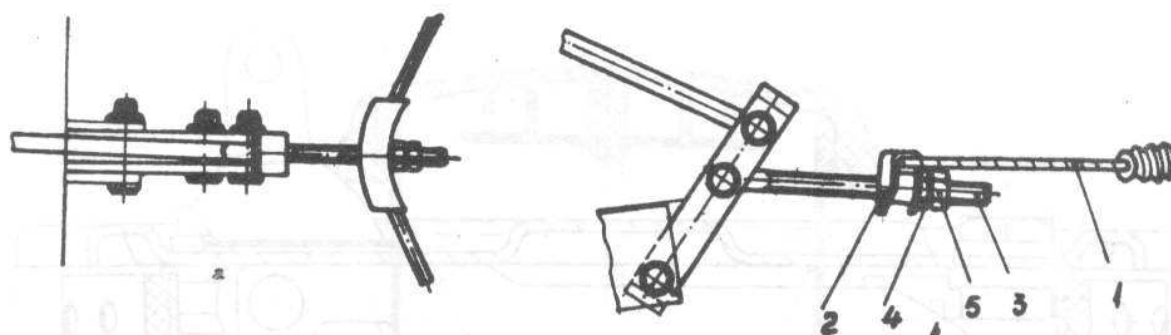

Fig.2.41. BOWDEN CABLE TENSION ADJUSTING SYSTEM FOR HAND BRAKE CONTROL.
- Loosen parking brake Bowden cable pushing forwards brake control handle and then slacking nut (4) and lock nut (5) - (see fig.2.41), unscrewing both untill the cable is loosened, i.e. up to the end of adjusting rod (3) (access from car underside).